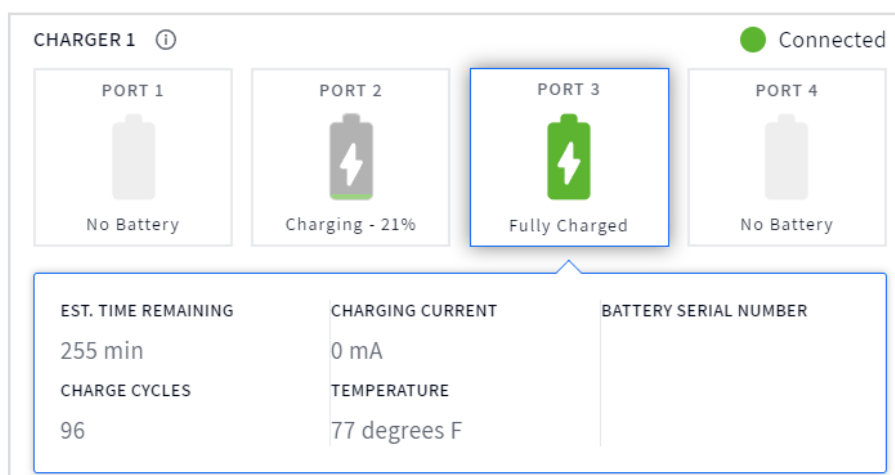

Fig. 1.11
4. Tap on a port tile for more battery details. For example, in Fig. 1.11, the third tile (Port 3) was tapped, prompting additional details about the battery docked in this port to be displayed.